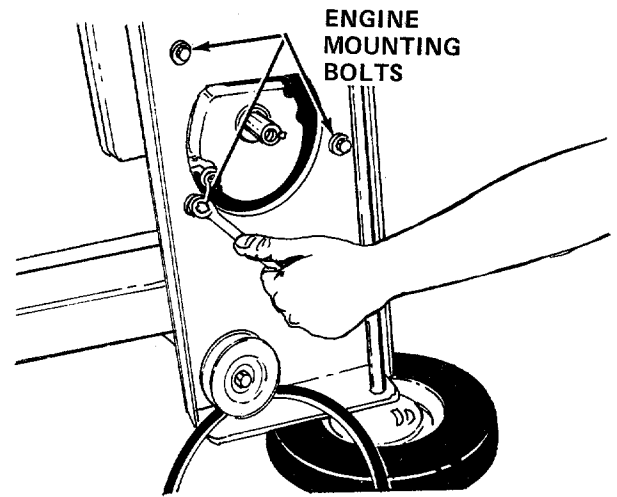

FIGURE 15
5. Loosen the three engine mounting bolts using a 1/2" wrench. Refer to figure 15.
- Loosen the three engine mounting bolts using a 1/2" wrench. See figure 15.